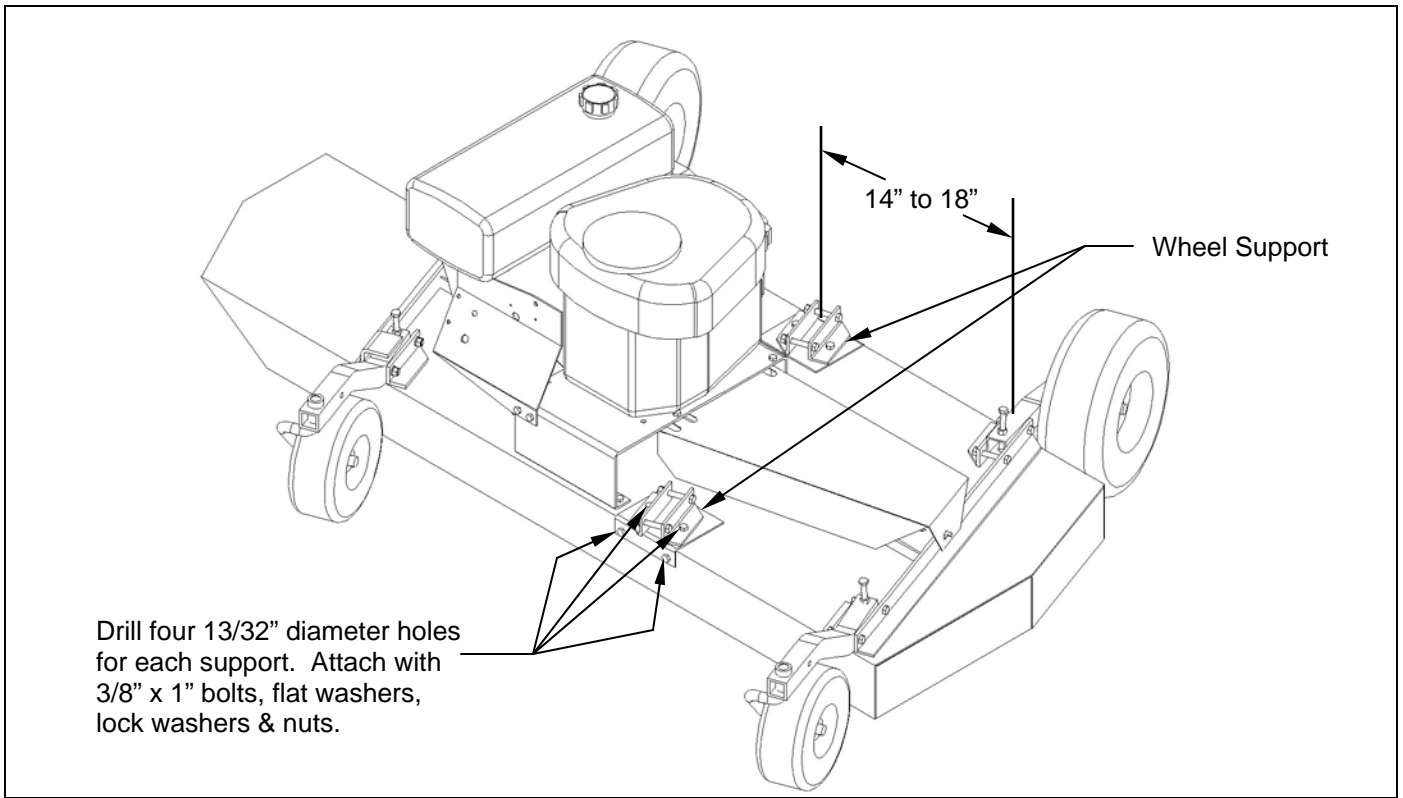

Figure 1: Installation of wheel supports
A. INSTALL WHEEL SUPPORTS (Refer to Figure 1)